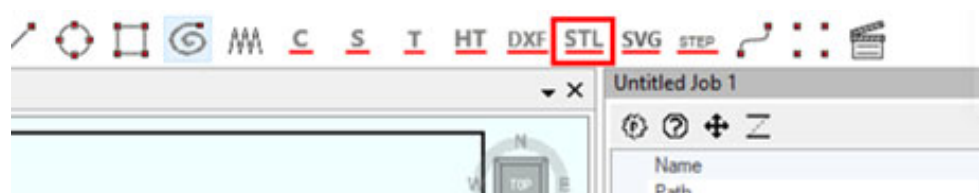

Figure 231: STL Import Button
2. Click the "STL" button in the Tool Bar. See Figure 231 (below).